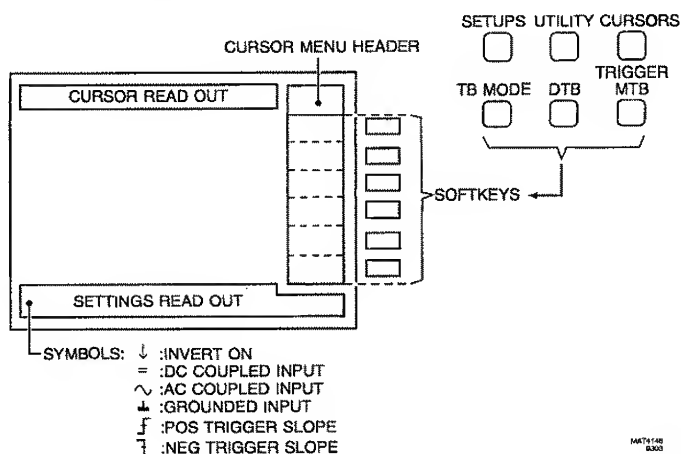

Figure 3.2 CRT viewing area, menukeys and softkeys.
- Verify that a square wave as indicated in Fig. 3.2 is displayed; in case of an AMPL toggle key on CH3/CH4, the vertical amplitude is 0.6 divisions instead of 6 divisions. The corresponding display is shown in Fig. 3.3.
- Turn the POS control CCW until the display of Fig. 3.2 or Fig. 3.3 is obtained again.
- Press the AC/DC/GND key so that ac input coupling (\sim) is obtained. In case of separate GND and AC/DC keys, they both must be pressed to obtain an ac coupled input. The waveform as indicated in Fig. 3.2 or Fig. 3.3 is displayed again.
- Verify that a square-wave as shown in Fig. 3.2 is displayed.
- Press the TRIG 1 key again and verify that the displayed square-wave starts with a positive-going slope as indicated in Fig. 3.2.
- Select 0.1 ms/div with the MTB key pair and verify that the square wave is displayed as shown in Fig. 3.2.
- Verify that a square wave as shown in fig. 3.2 is displayed.